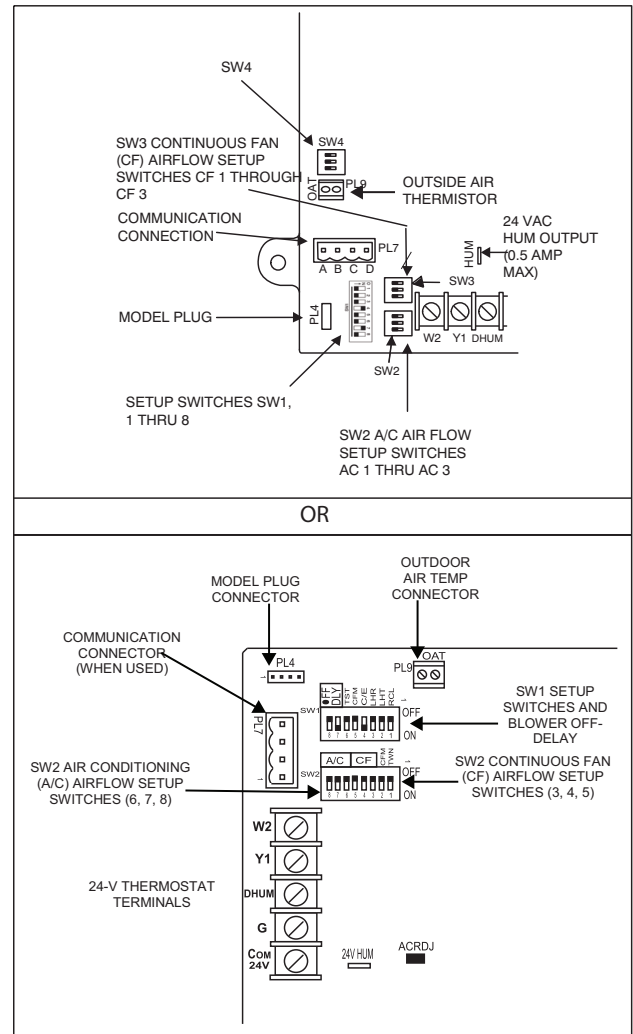

Fig. 32 - Furnace Control
5. Turn Setup Switch SW1-2 on furnace control ON. See Fig. 32.